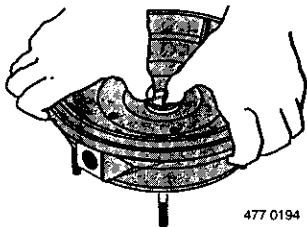

Figure 17 – Press in New Seal
- Put clean cardboard washer on seal face. With thumb pressure, press ceramic seal half firmly and squarely into seal cavity in seal plate (see Figure 17). Polished face of ceramic seat is up. If seal will not seat correctly, remove, placing seal **face up** on bench. Reclean cavity. Seal should now seat correctly.